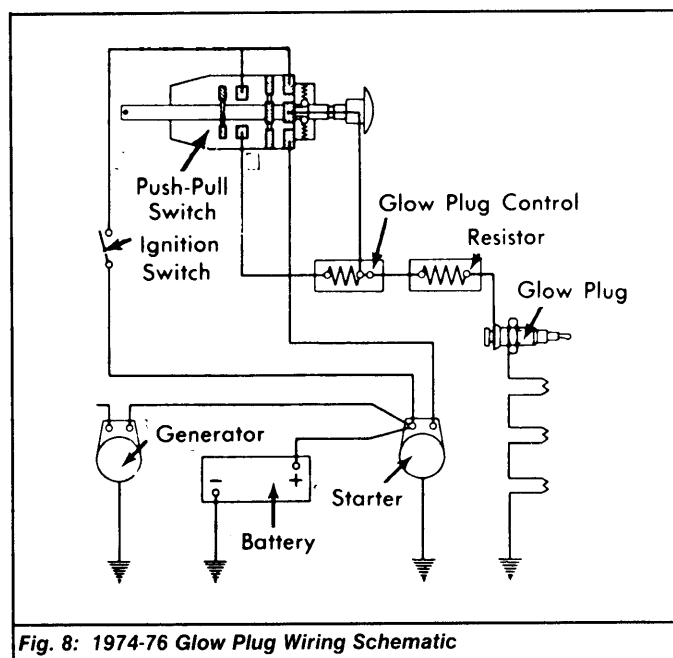

Fig. 8: 1974-76 Glow Plug Wiring Schematic
- 3) If indicator glows bright Red in step 1), a short circuit is indicated. Disconnect ground lead at end of system. See Fig. 8. If glow plug indicator continues to glow bright Red, one of the glow plugs is shorted to ground.